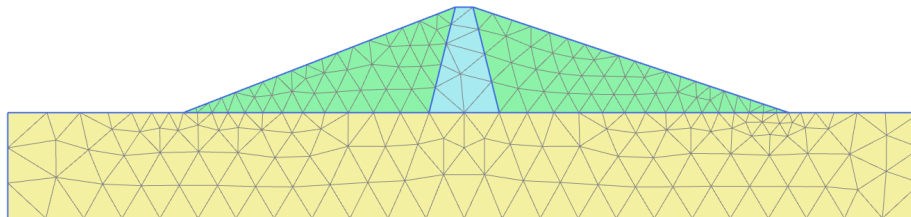

Figure 173: The generated mesh
3. Click the **View mesh** button  to view the mesh which is shown in Figure 173 (on page 199).